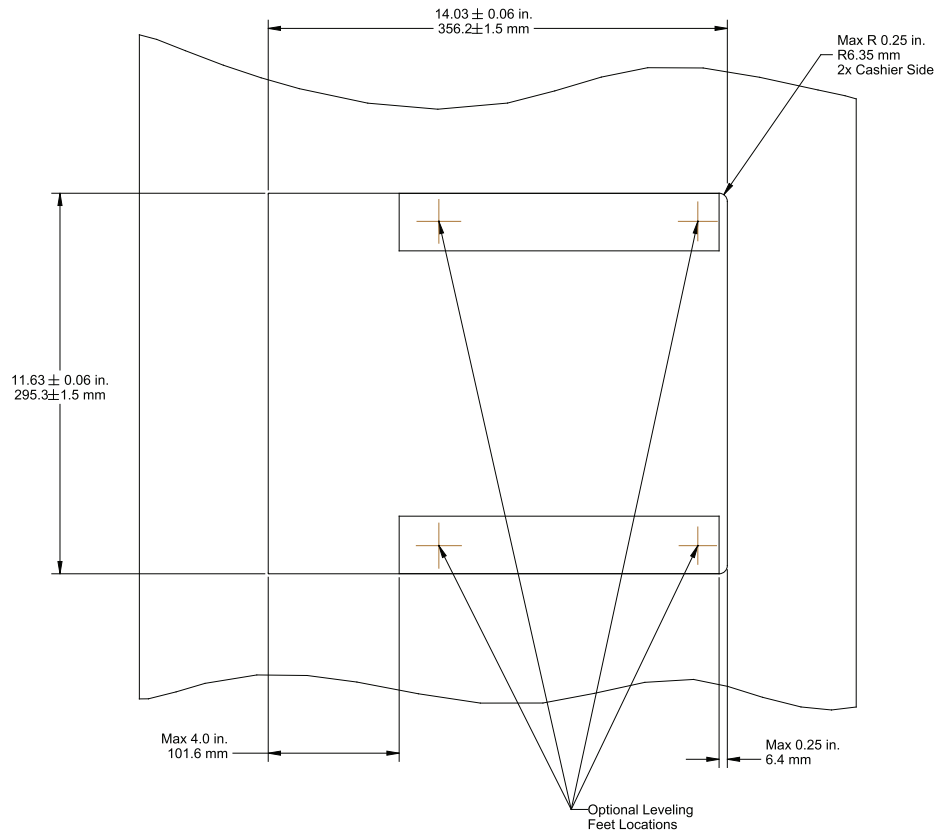
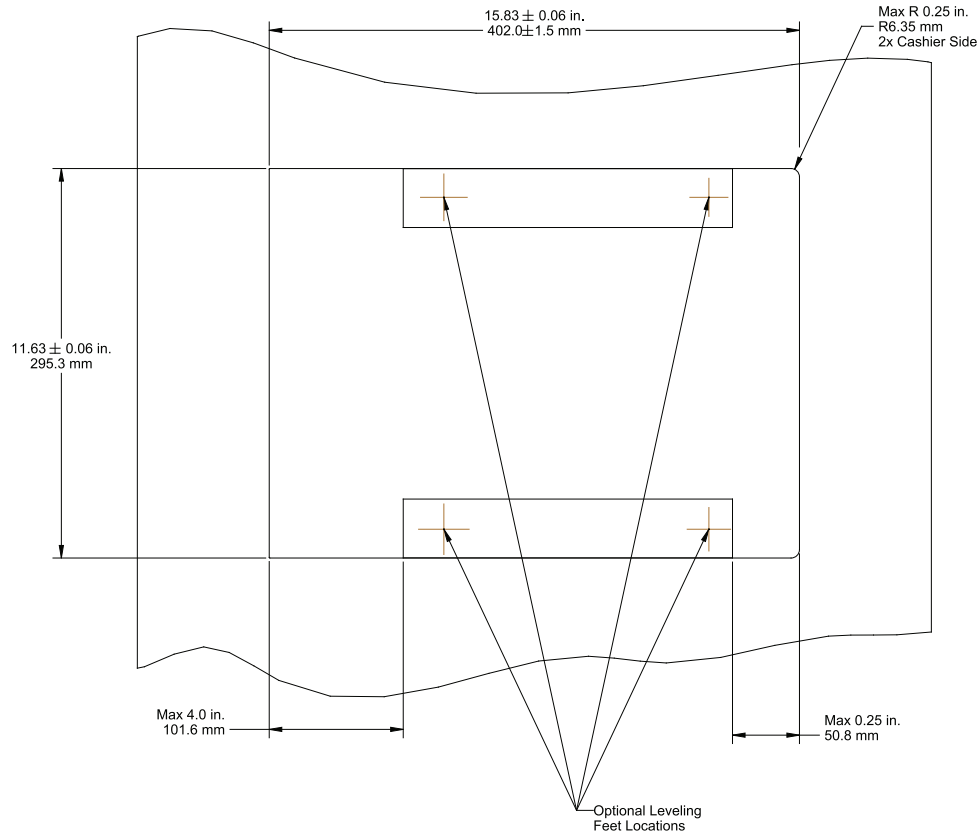
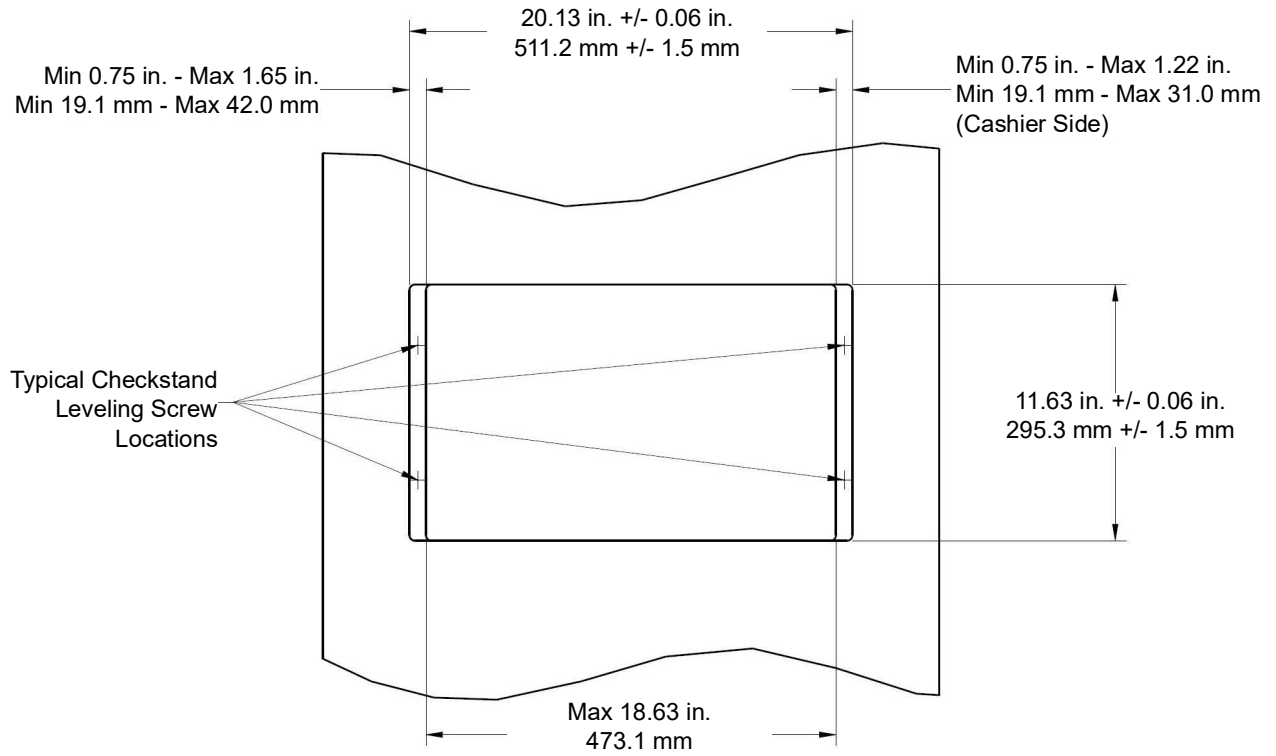

Figure 3-10 Short Unit (No Scale) Counter Cutout
Figure 3-14 Medium Unit Counter Cutout
Figure 3-18 Long Unit Counter Cutout
2. Verify checkstand dimensions shown in Figure 3-10, Figure 3-14, and Figure 3-18, respectively.